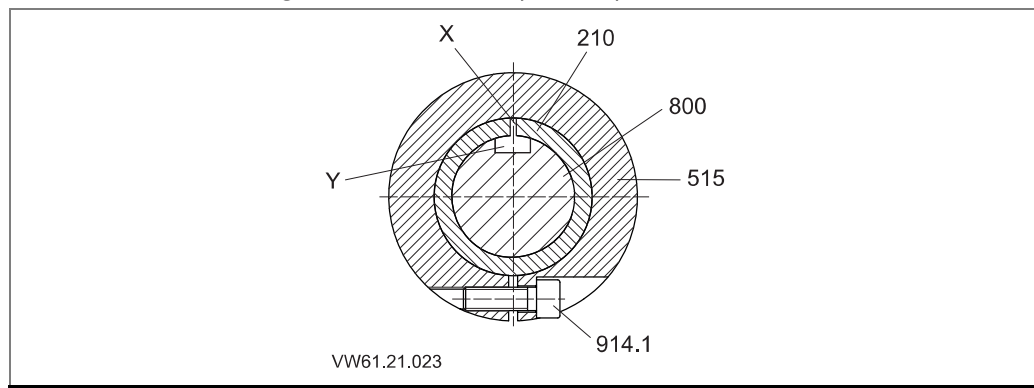

Fig. 7
1. Plug the motor shaft end into the shaft (210). The motor shaft key nut and the slit in the shaft (210) have to be congruent and lay opposite the slit in the supporter ring (515). See "Fig. 7" on page 40